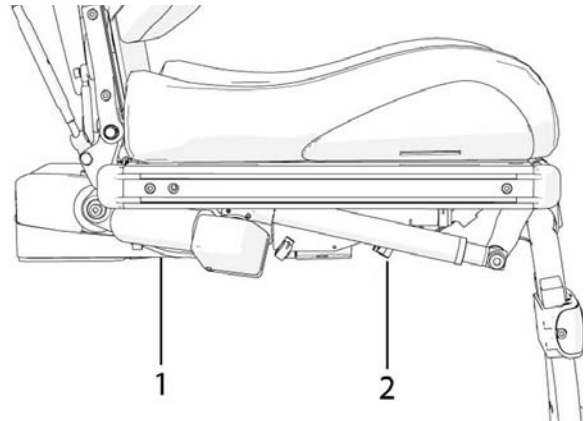

Fig. 3. The connector is on the cabling at the front right corner of the seat angle mechanism, next to the rest of the cabling.
3. Connect the cabling for the seat angle mechanism to the wheelchair's ICS Master Module. If the cabling for the ICS Master Module is already there, connect it to the contact that is at the front right corner of the seat angle mechanism, next to the other cabling. See fig. 3.